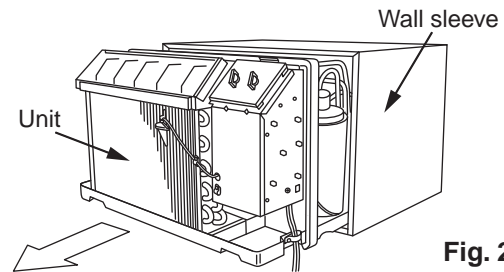

Fig. 2
- (1) While supporting the bottom part of the unit, pull it out of the wall sleeve. (Fig. 2)